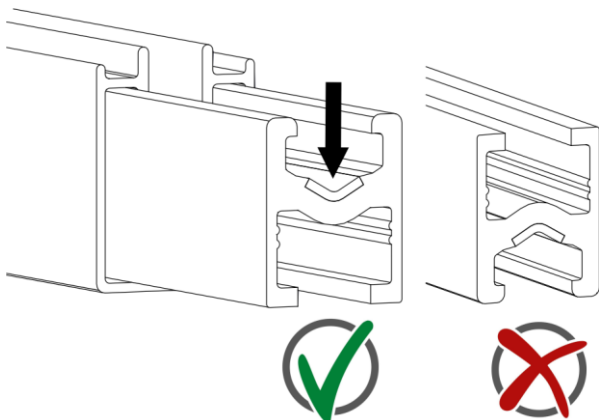

Fig. 45: Note the sawing direction for the conductor bar
- If the conductor bar is sawed, the cutting direction must be kept from top to bottom (see Fig. 45).